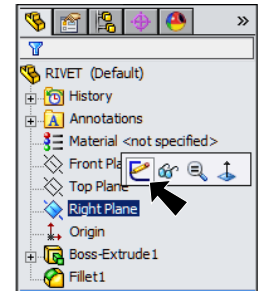

Fig. 9
Step 1. Click **Right Plane**  in the Feature Manager and click **Sketch**  from the Context toolbar, Fig. 9.
Step 3. Click **Corner Rectangle**  (S) on the Sketch toolbar.